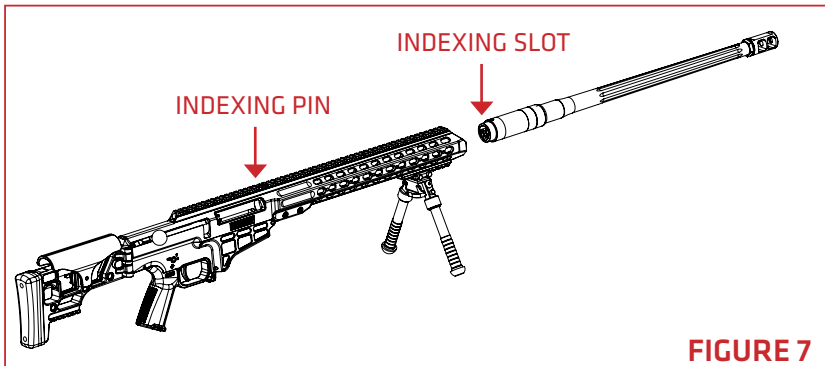

FIGURE 7
10. Slide bolt assembly forward until the bolt head enters the barrel extension and lower handle to lock the bolt (**FIGURE 7**).